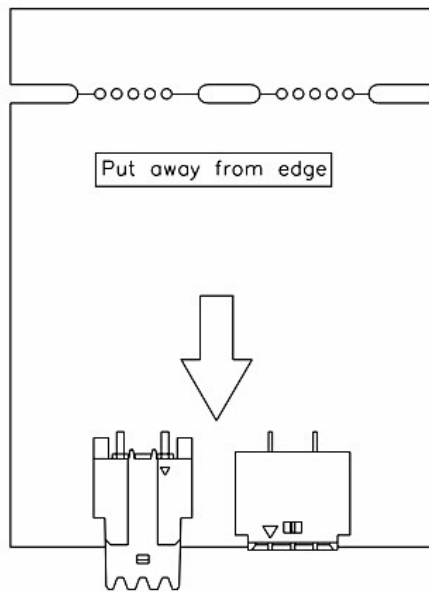

Fig. 2-3
- When P.C.B. is cut into multiple P.C.B. or fastened with screw after mounting, in order that stress is not added to soldering part, please be careful to put it away from edge or screw not to interfere each other (fig. 2-3/2-4)